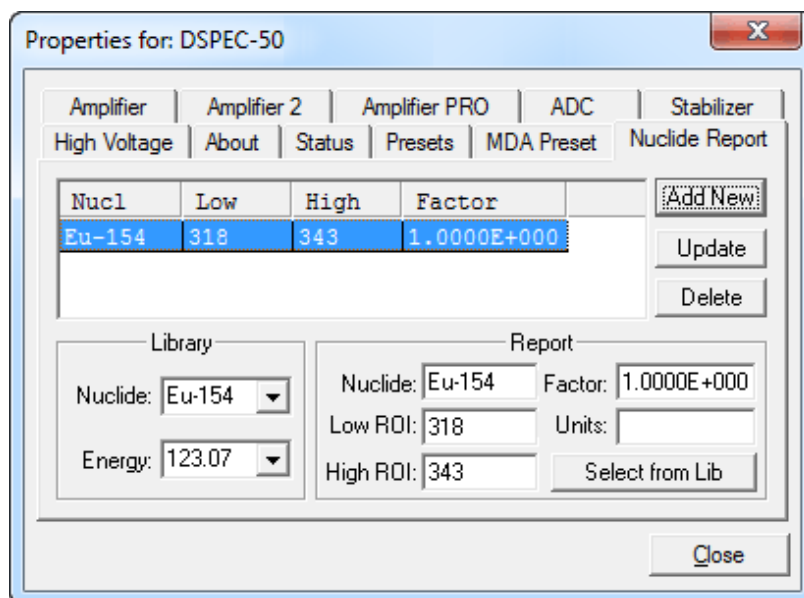

Fig. 50. Nuclide Report Tab.
Figure 50 shows the Nuclide Report tab. The Nuclide Report displays the activity of up to nine (9) user-selected peaks. Once the report is set up, the two lowest-energy ROIs and their respective activity readouts are displayed on the DSPEC-50's Spectrum screen.